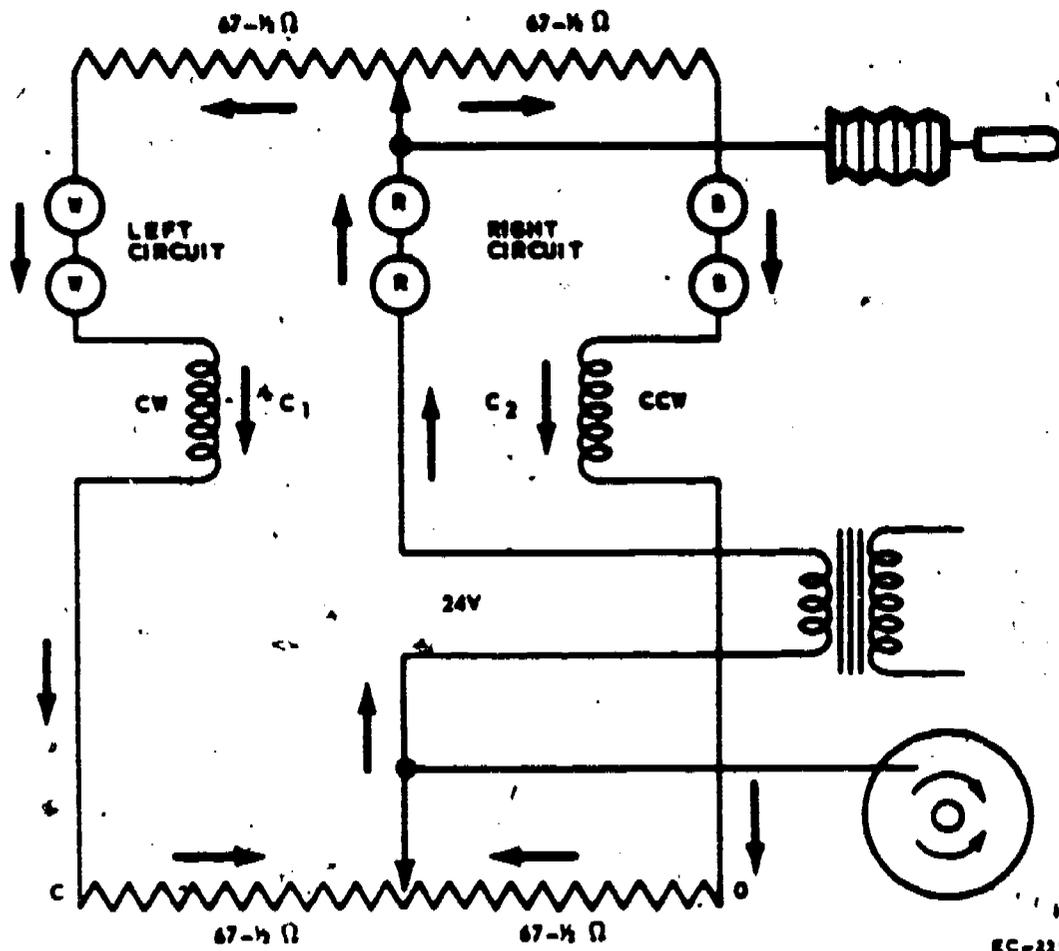

Figure 31. Series-90 Control Circuit
1. Control circuit: Figure 31 illustrates a modification of the Wheatstone bridge. It consists of two potentiometers. One potentiometer is in the controller and its wiper is moved by the sensing element reaction to each variable change. The other potentiometer is located in the motor and its wiper is moved by the rotation of the motor. You will note that the control circuit also contains two coils and a 24-volt power source. As shown, the thermostat is satisfied and the bridge is balanced. Power (24 volts) is applied to the bridge by the transformer. There are two paths for current to flow. The left circuit has a total of 135 ohms resistance plus coil  $C_1$ . The right circuit has a total of 135 ohms resistance plus coil  $C_2$ . The amount of current flow is equal in both circuits. This is called a balanced bridge.